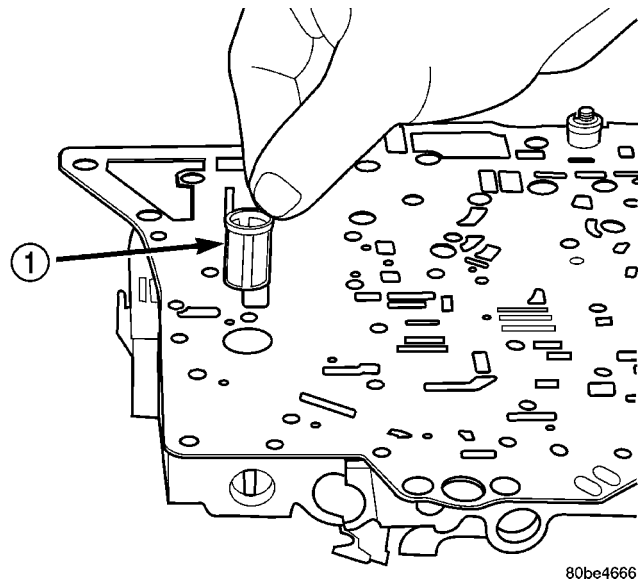

Fig. 324 Remove Oil Screen
(8) Remove oil screen (Fig. 324).